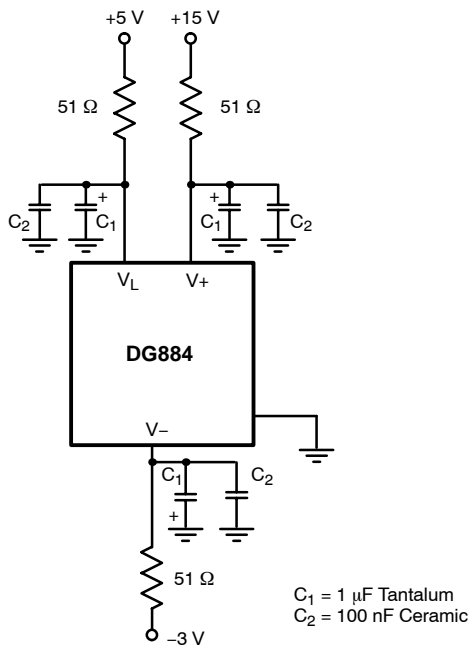

FIGURE 14. DG884 Power Supply Decoupling
- 4) Additional high frequency protection may be provided by 51- Ω carbon film resistors connected in series with the power supply pins (see Figure 14).